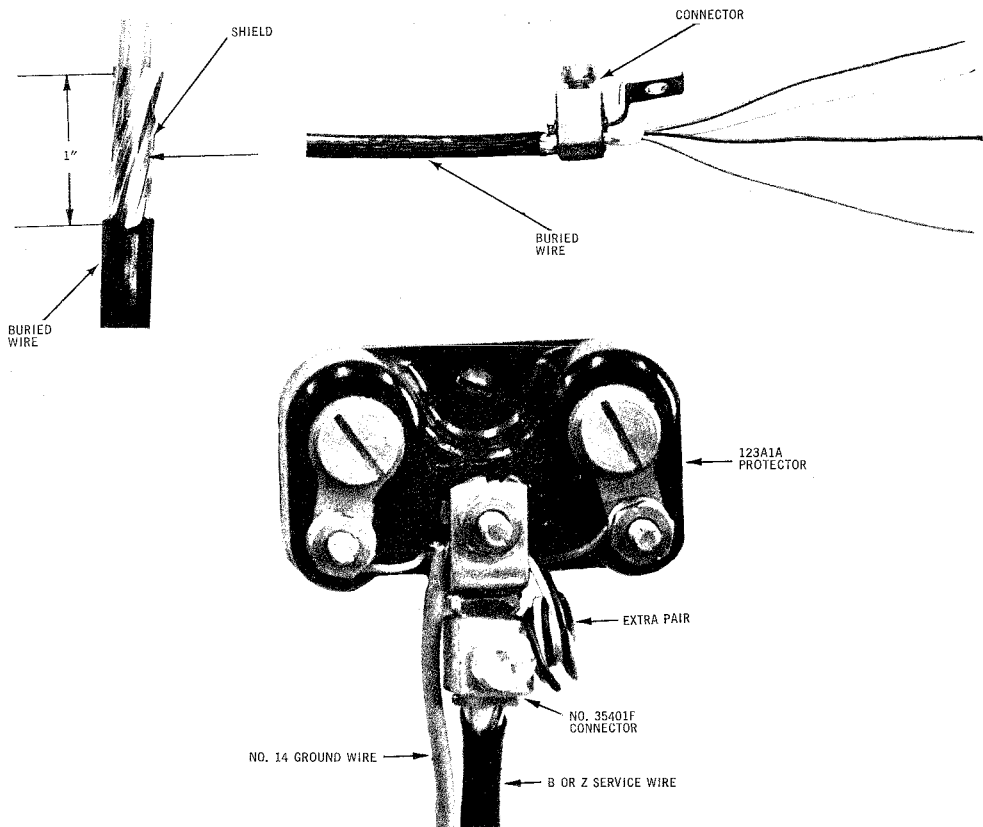

Fig. 15 — Buried Installation With 123 Type Protectors
4.19 Cut off the exposed armour on B or Z Service wire to a point 1 inch from the outer jacket. (Fig. 15) Remove the inner jacket leaving about 1/8 inch beyond the end of the armour.
4.20 Insert the wire into the 35401F Connector centering the armour in the barrel. Tighten the bolt with a screwdriver. (See Fig. 15).
4.21 Place the pronged washer on the ground lug between the ground wire and the connector. Place the brass washers and nut on top of the connector and tighten the nut with the 216B or equivalent tool. (See Fig. 15).